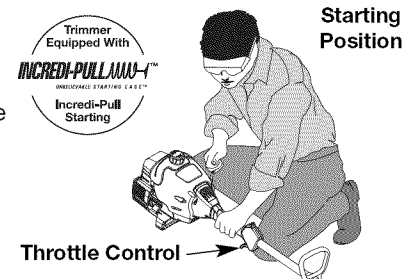

Fig. 4
4. Crouch in the starting position (Fig. 4). Do not squeeze the throttle, and pull the starter rope with a controlled and steady motion until the unit starts. Wait 10 to 15 seconds, then squeeze the throttle.